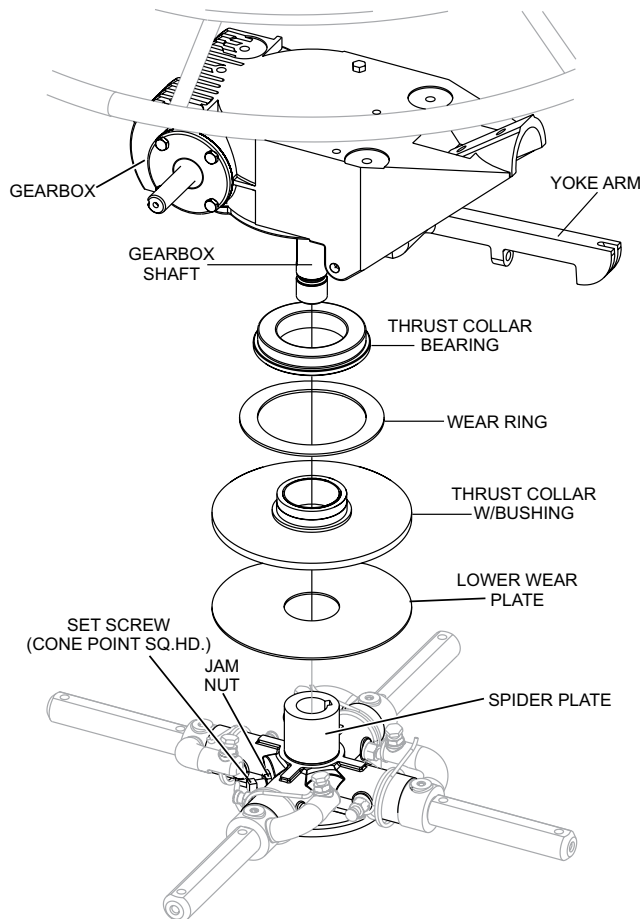

Figure 57. Spider Removal
1. Locate the cone point square head set screw (Figure 57) and attached jam nut found on the side of the spider assembly.